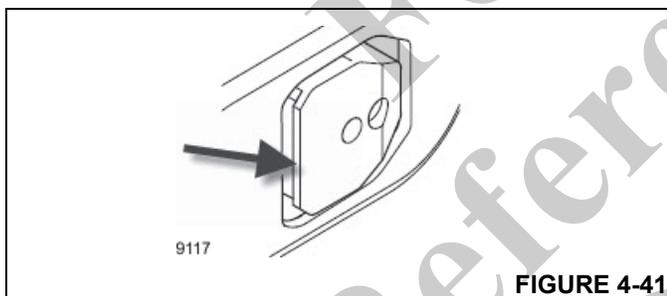

FIGURE 4-41
- Assuming that the boom section is requested to be locked, it is important to know that there are a few phases to the automated motion to lock the boom section. In particular, Figure 4-41 shows that there is a “lip” on the boom section pins (pointed to by the arrow in figure). The first phase for boom section locking is to release/extend the pins into the hole/cutout in the encompassing boom section. If this is successful, then there is a second phase of automated motion to set down the boom section on the proper flat surface of the pins that is next to the lip. In a final phase, the pin is confirmed to be engaged and the boom section locked by the control system commanding the telescoping cylinder to retract and then checking for no boom motion. If there is no motion, then it is confirmed as locked.
- The operator can use the telescope controller in the retract direction for at least 1 second, and then the automated motion to unlock the boom section (T4 in the example) will start. It is important to know that there are two phases for unlocking a boom section. As mentioned previously, and shown in Figure 4-41, there is a lip on the boom section pins. Therefore, the first phase of the automated motion is to lift up the boom section to have clearance from this lip. After the lift up is completed, then the pins are retracted. The boom section is now able to be retracted.